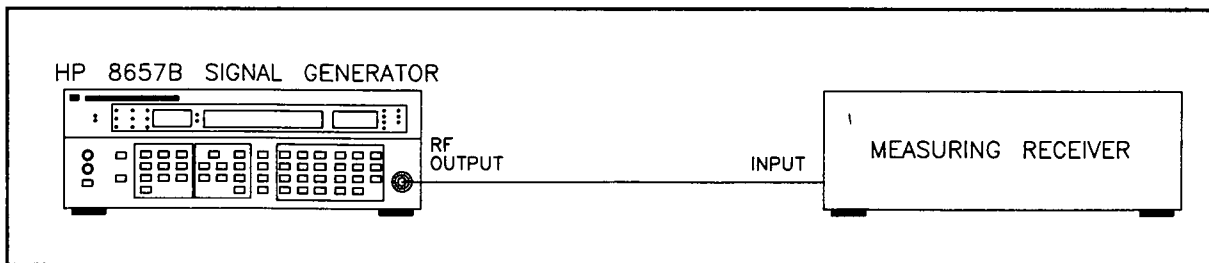

Figure 4-7. Modulation Test Setup
1. Connect the RF OUTPUT of the HP 8657B to the input of the measuring receiver as shown in Figure 4-7.
- a. Connect the FM divide-by-4 output of the AM/FM test source to the input of the measuring receiver and the 50 ohm output of the test oscillator to the audio input of the AM/FM test source, as shown in Figure 4-7.